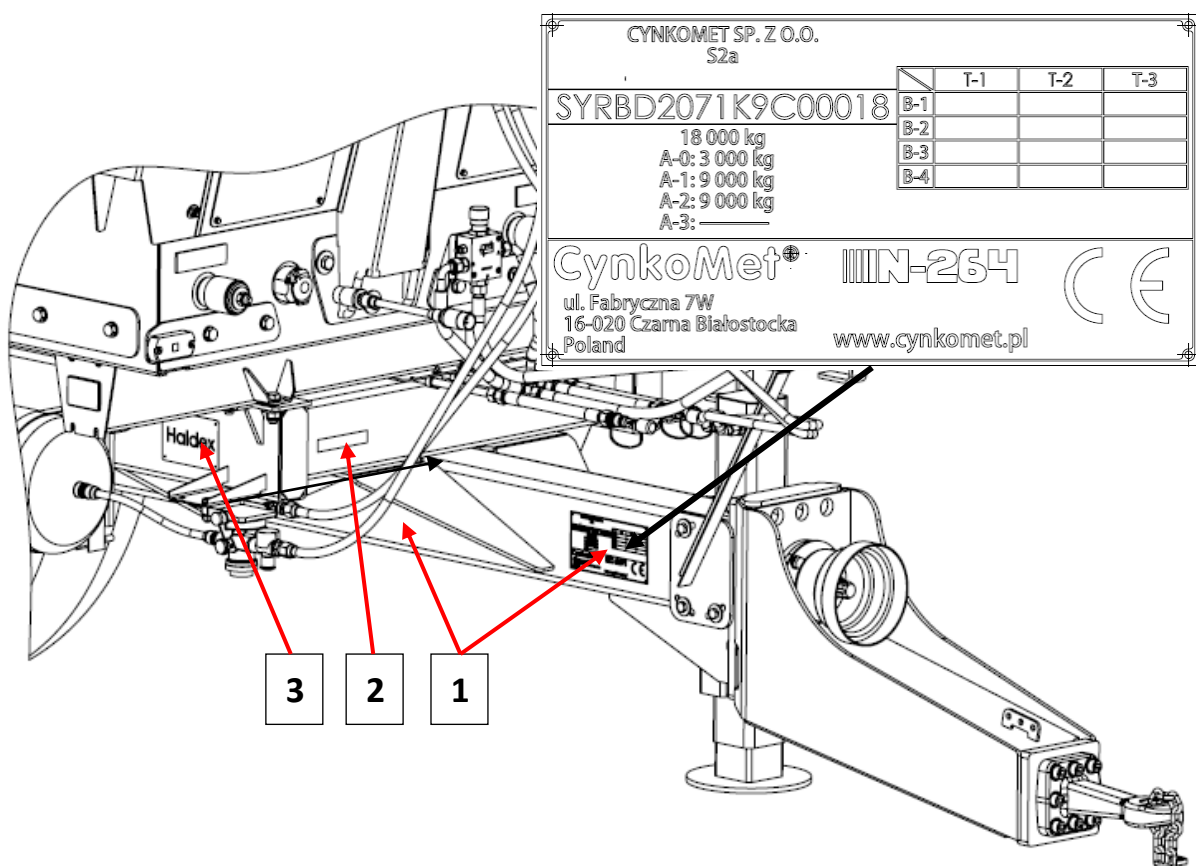

Figure 1.1. Potential location of the rating plate and issue of the serial number
The manure spreader is marked with the use of a nameplate (1) and a serial number (2). The serial number is located on the front beam of the lower frame, and the rating plate is located on the drawbar beam of the bottom frame - figure 1.1.